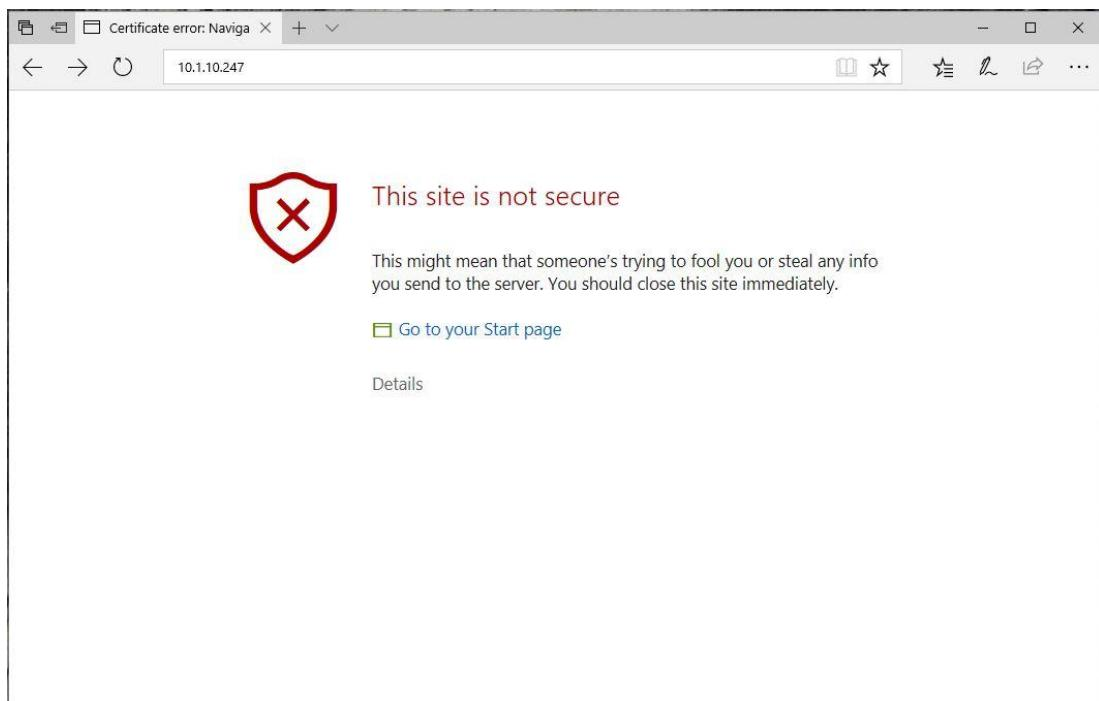

Figure 314: Accessing the built-in web server ("This site is not secure").
4. The browser might show you a warning about an invalid web server certificate, as illustrated in Figure 314. Make sure, that you have typed in the correct IP address.